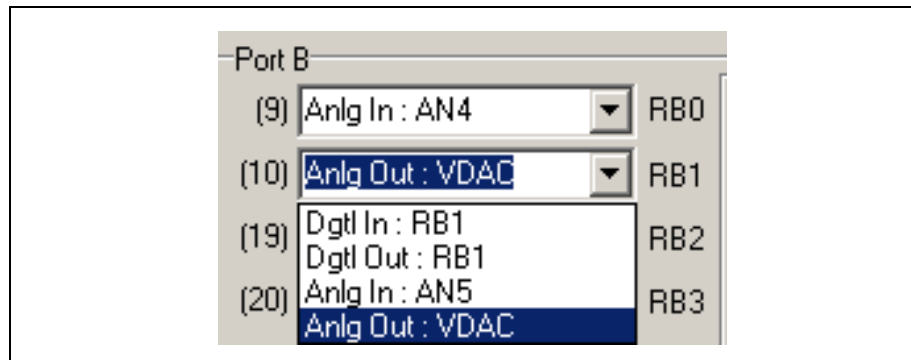

Figure 3.2: Enabling the VDAC Output
- Using the drop-down menu of RB1, select the Anlg Out:VDAC option and press <Enter>, as shown in Figure 3.2.
The Evaluation Board software has built-in safeguards against performing certain functions out of sequence, or executing functions with missing parameters. For example, if you were to click the Arbitrary Waveform button (shown above) at this point in the configuration, you see the following warning message, shown in Figure 3.2: